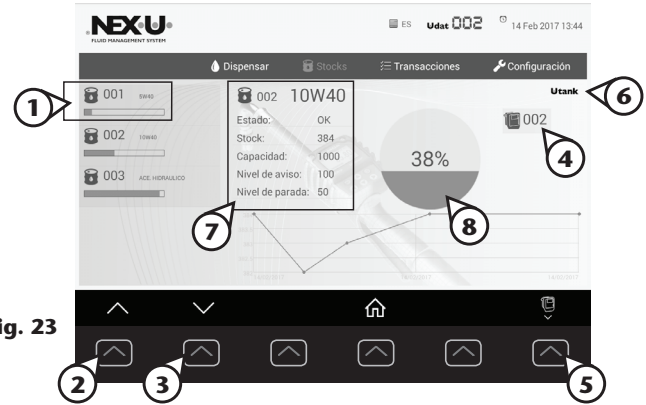

Fig. 23
In this menu (**Fig. 23**), the tanks list with their identifier and associated product is displayed (1). To navigate through the available tanks list use the keys (2) and (3). For each tank, the associated U-valve units (4) are displayed. When the U-valve list does not fit on the screen, navigate with the button (5).